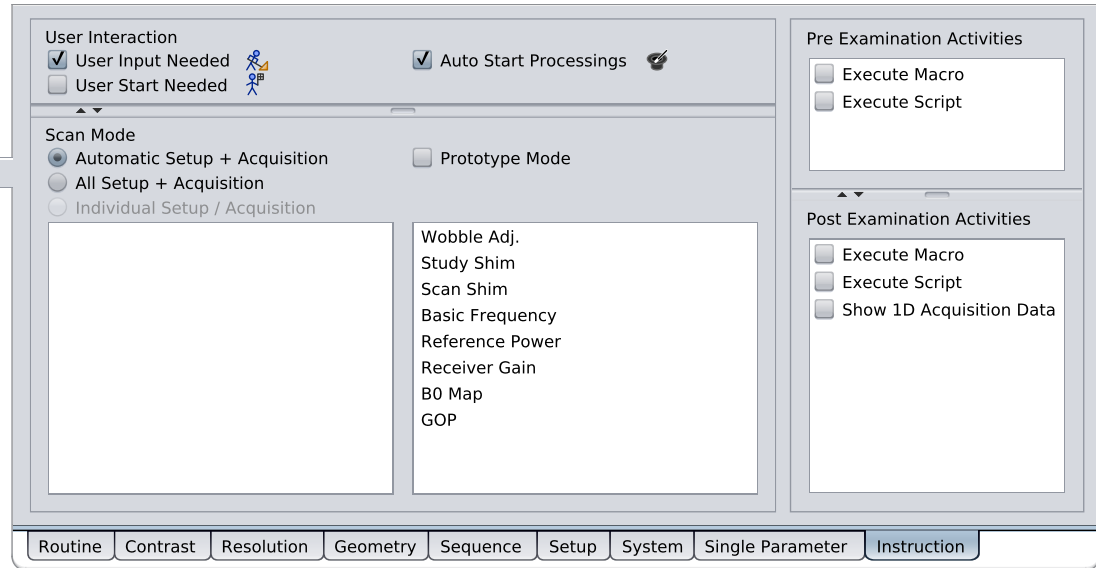

Figure 3.21: Instruction Card
2. Select the Instruction Card (see [Figure 3.21 \[▶ 704\]](#))